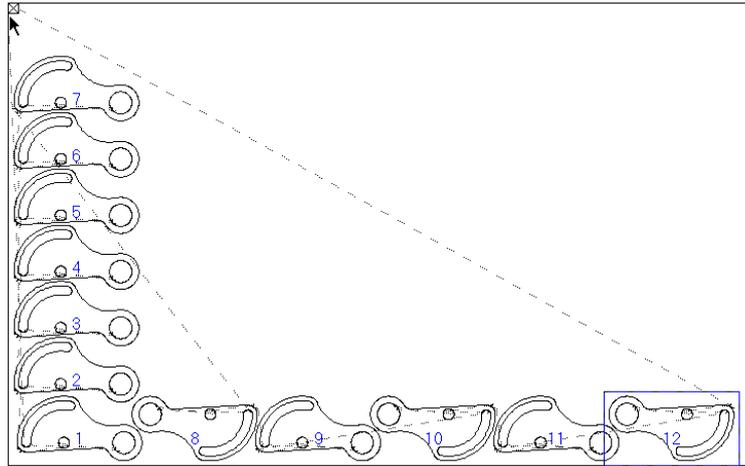

Figure 2-3
- (3) Select the part with serial number 1, then use the array mode of "X Flipped" in "Array", thus the nest result can be got as shown in Figure 2-3.